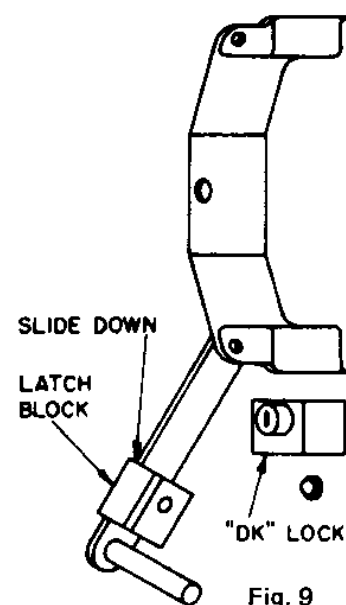

Fig. 9
2. Slide latch block on handle arm down to clear "DK" lock shown in Fig. 9.